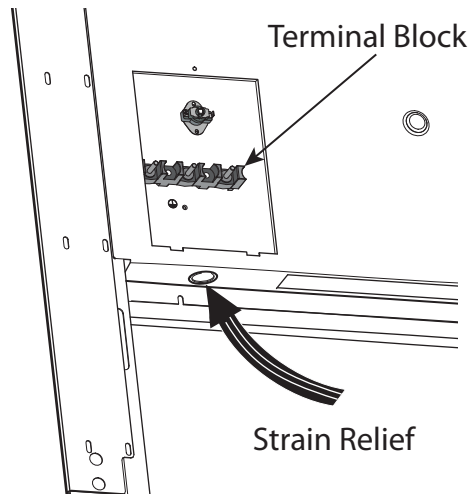

Figure 10: Strain Relief Location
Locate the terminal block on the rear of the unit and remove cover (refer to *Figure 10*). The conduit must be installed to the terminal block using an approved conduit connector. The free end of the conduit must be connected to a terminal block provided in the electrical supply zone, as shown in *Figure 4 on page 8*.
Mount a strain relief (not provided) into the 1" (25.4 mm) diameter hole located below the terminal block (see *Figure 10*). Wiring for the unit is to be brought into the terminal block through the conduit and through the strain relief. The ends of the wiring must have $\frac{1}{4}$ " (6 mm) faston closed-loop lugs attached, preferably soldered in place. Make the connections to the terminal block provided.
1. Locate the terminal block on the rear of the unit and remove cover (see *Figure 10*).